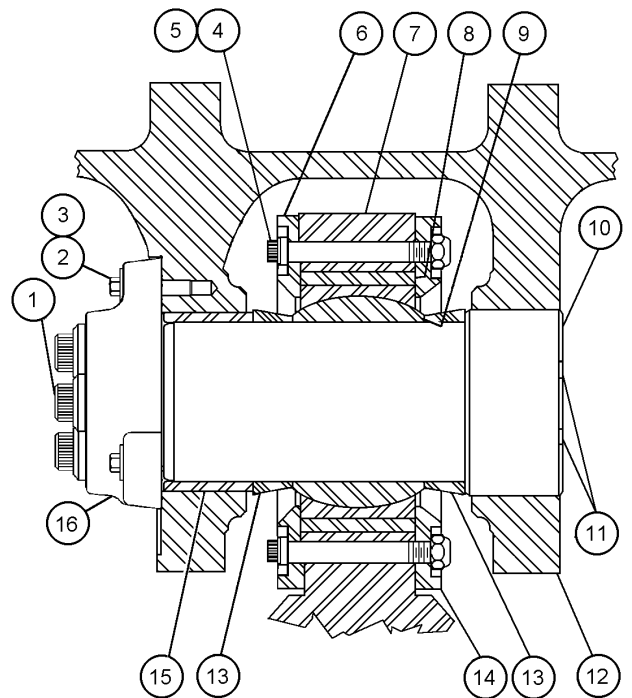

FIGURE 4-1. PIVOT PIN ASSEMBLY
9. Remove capscrew (2, Figure 4-1) and lockwasher (3).
10. Remove capscrews (1). Remove locking plate (16).
11. Install puller using tapped holes (11) in head of pin. Remove pin (10).
*NOTE: Placing a pry bar or jack between the mounting structure and pivot eye may be necessary to push the pivot eye downward and away from the mount structure. Spacers (13) will fall free.*